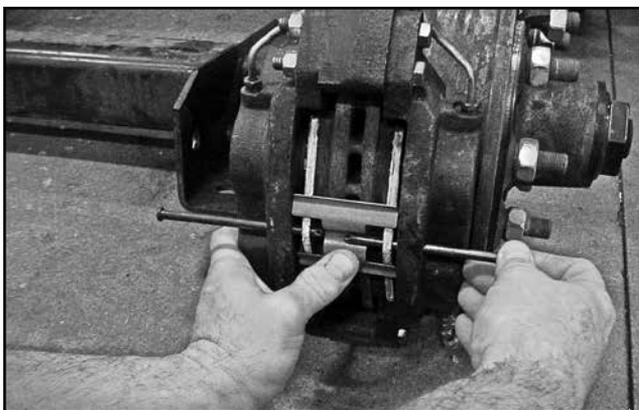

Figure 1
4. Align the brake pad mounting holes with the holes in the caliper. Insert one of two brake pad retaining bolts into each caliper half as shown below in **Figure 1**. Place the anti-rattle spring against the brake pads and press the center toward the rotor while you slide the outboard pad retaining bolt toward the inner lining. Continue sliding the pad retainer bolts until it engages both pads and pushes the second bolt out of the inboard caliper half. Install and torque lock nut until threads stop.
6. Reassemble the brake pads into the disc brake. Make sure to locate the brake lining side of the pads toward the rotor surface, and the steel side of the pads toward the calipers. Align the brake pad mounting holes with the holes in the caliper. Insert one of two brake pad retaining bolts into each caliper half as shown previously in **Figure 1**. Place the anti-rattle spring against the brake pads and press the center toward the rotor while you slide the outboard pad retaining bolt toward the inner lining. Continue sliding the pad retainer bolt until it engages both pads and pushes the second bolt out of the inboard caliper half. Install and torque locknut until threads stop.